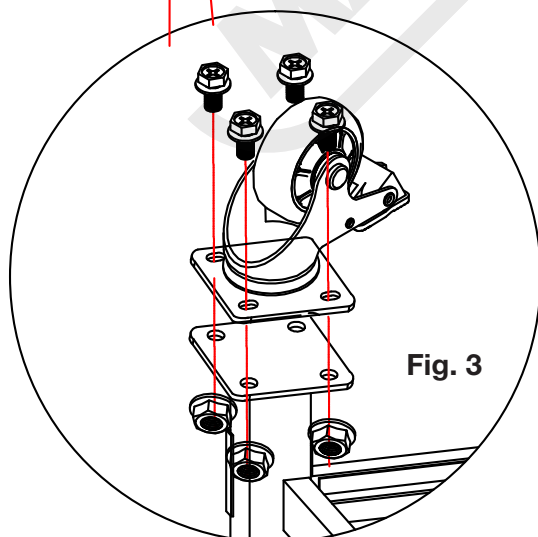

Fig. 3
**Step 5:** Install 2 swivel brake wheels (7) to left side and 2 fixed wheels (8) to right side on feet of legs (2) using short screws (5) and nuts (6). As shown in (Fig. 3).